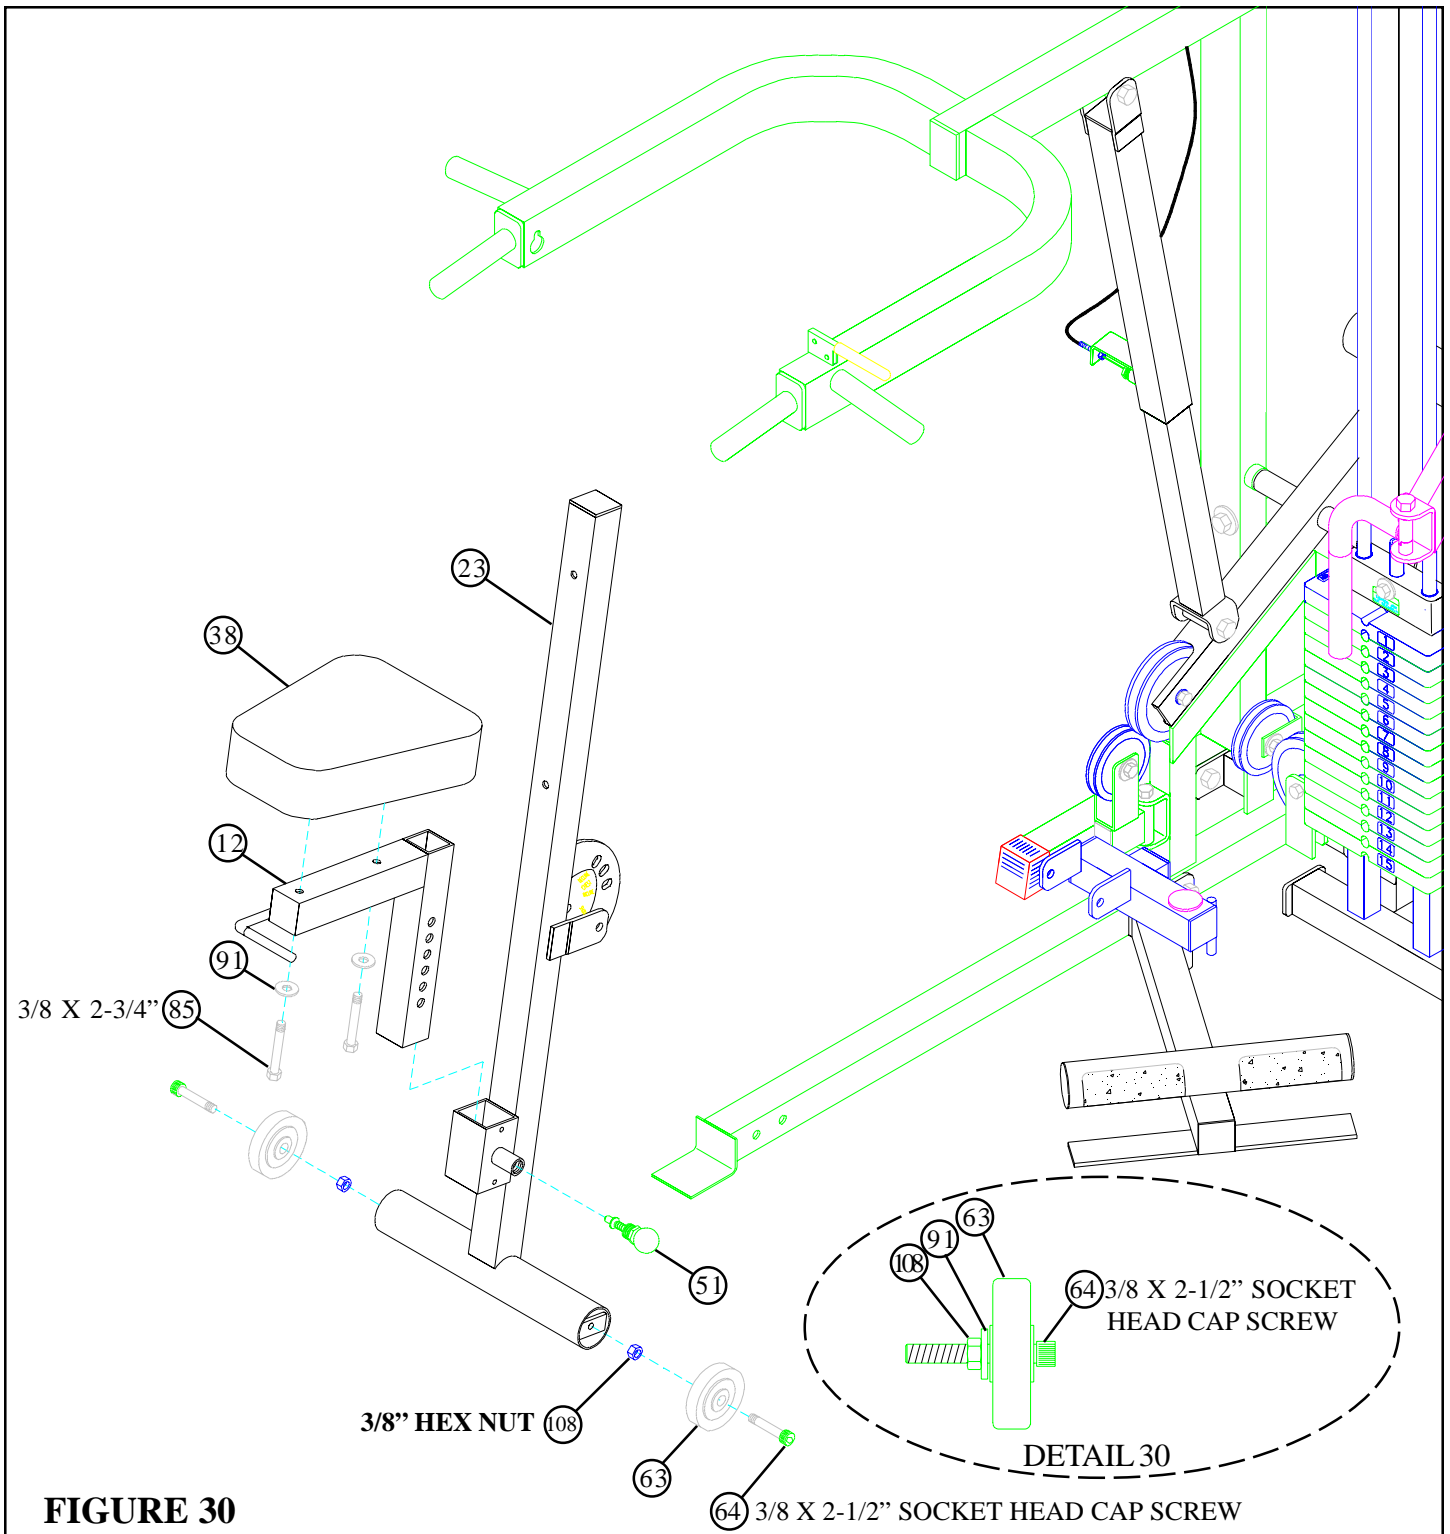

FIGURE 30
- **SECURELY** assemble one 3/8" SPRING PIN (51) to the spring pin housing of the PRESS BACK SUPPORT (23). (**NOTE: Tighten the nut of the SPRING PIN ASSEMBLY SECURELY.**)
- **SECURELY** assemble two 3" WHEELS (63) using two BLACK 3/8 X 2-1/2" SOCKET HEAD CAP SCREWS (64) and two 3/8" HEX NUTS (108) as shown in DETAIL 30.
- **SECURELY** assemble two wheel assemblies to the PRESS BACK SUPPORT (23) as shown in FIGURE 30.
- **SECURELY** assemble the SEAT PAD (38) to the PRESS SEAT ADJUST (12) using two 3/8 X 2-3/4" BOLTS (85) and two 3/8" WASHERS (91). See FIGURE 30.
- Pull back the 3/8" SPRING PIN (51) on the PRESS BACK SUPPORT (23) and slide the PRESS SEAT ADJUST (12) into the receiving well. Engage the 3/8" SPRING PIN (51) into one of the adjustment holes.